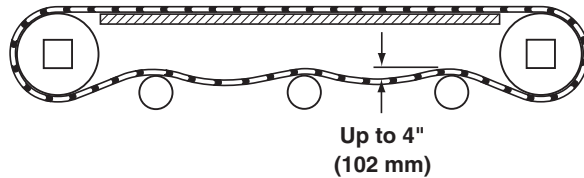

Figure 50
4. Check belt sag by measuring from the top of the return (Figure 50). Belt sag should not exceed 4" (102 mm). Follow steps 7 – 9 in the "Belt Installation" section on page 14 to remove slack from the belt.